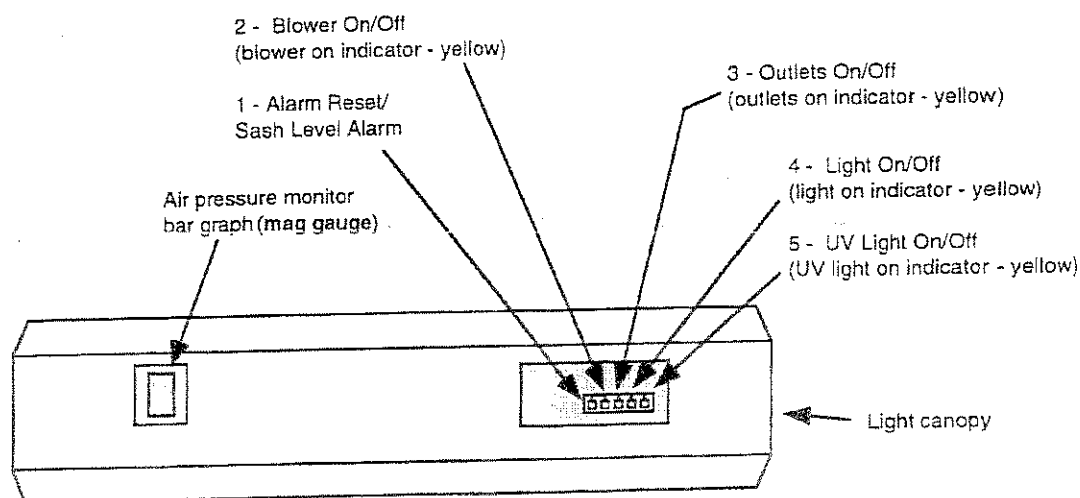

Fig. 5 Operator Controls
The operator controls and indicators are arranged on the front panel of the unit. See Fig. 5. A number of switches are arranged in a single membrane switch assembly.
The air pressure monitor is mounted on the left side of the control panel (comes standard on SGII ULTRA model and as an option on the SGII Standard model). See Fig. 5. The bar graph
1. If the unit has not been left running continuously, press the blower on/off switch. The yellow indicator above the switch will light. Make sure that you have cabinet airflow, either by listening for blower sound or feeling the airflow across your fingers. Check the reading on the air pressure monitor (magnehelic gauge). See Fig. 5. The reading on the monitor (magnehelic gauge) should be consistent with the last time the unit was on.
This SterilGARD®II unit has an ultraviolet light. The light is controlled by an on/off switch on the front panel. See Fig. 5. When the fluorescent light is on, the ultraviolet light cannot operate. The UV light will not operate unless the viewscreen is completely down and the fluorescent light is off.